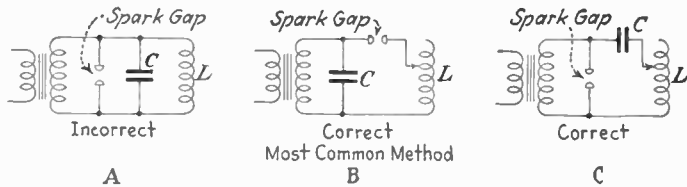

FIG. 22.—Correct and incorrect method of connecting spark gap and condensers to transformer.
*Ans.* See Fig. 22. If the spark gap is connected directly across the secondary of the step-up transformer, with a condenser and primary inductance in parallel, the power transformer is short-circuited through  $L$ , and the circuit would not operate. The two standard methods of connecting are shown in  $B$  and  $C$  of the same figure, of which  $B$  is the most commonly used.